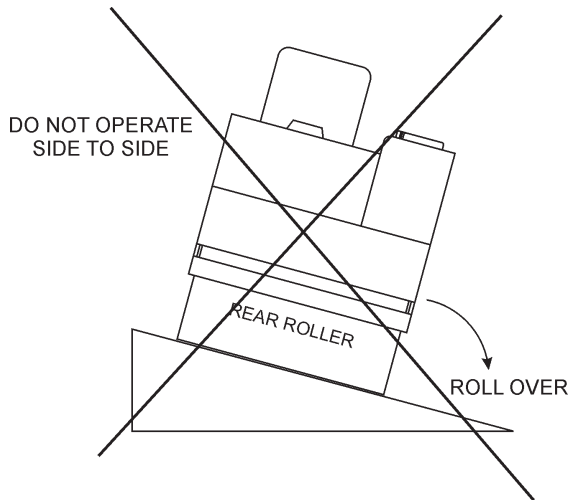

Figure 3. Tipping (Rollover)
This roller is **not offered** with a **Rollover Protection Structure (ROPS)**. The possibility exists of the roller tipping over causing severe bodily harm, even death, if side-side operation is used (Figure 3). **DO NOT** use this roller for side to side applications.
**NEVER!** operate the roller on side slopes (Figure 3). The possibility exist that the roller could tip over (roll over), thus causing bodily harm even death and serious damage to the equipment.